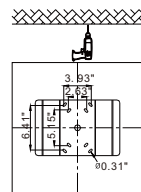

Figure8
- 1.Drill the alignment holes on the top ceiling, make them match to the holes on mounting bracket.(Figure 8)